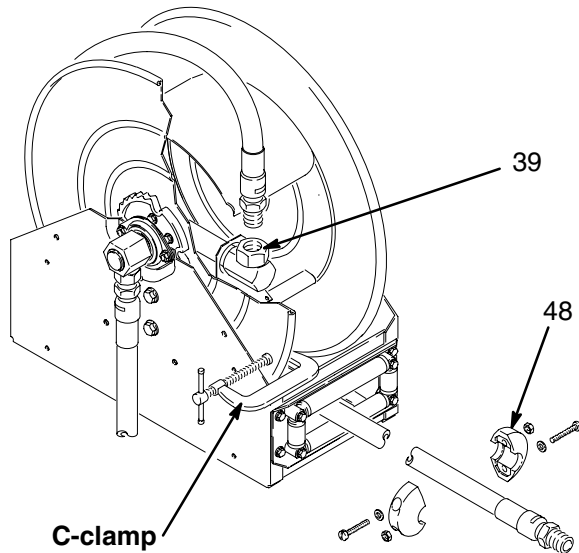

Fig. 7
4. Attach a C-clamp to the reel flange to help prevent the reel from unintentionally becoming unlatched and spinning freely. See Fig. 7.